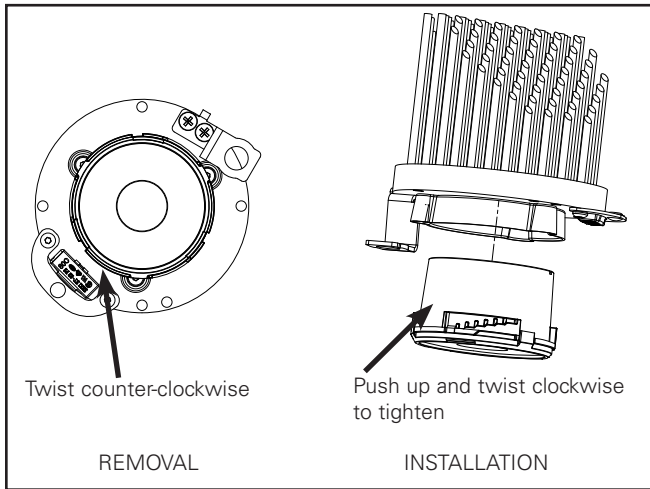

Figure 8
1. The optic can be removed and replaced to provide a different beam angle. To remove optic, twist counter-clockwise. To install, insert optic and twist clockwise (Figure 8).